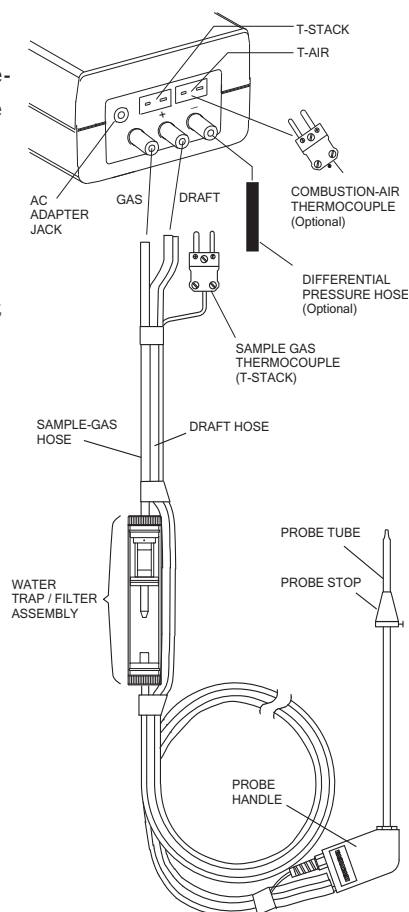

Figure 1. Analyzer Connections
1. Depending on the analyzer's model number, connect the probe's sample-gas hose and, if used, its draft hose and thermocouple connector to the bottom of the analyzer as shown in Figure 1.